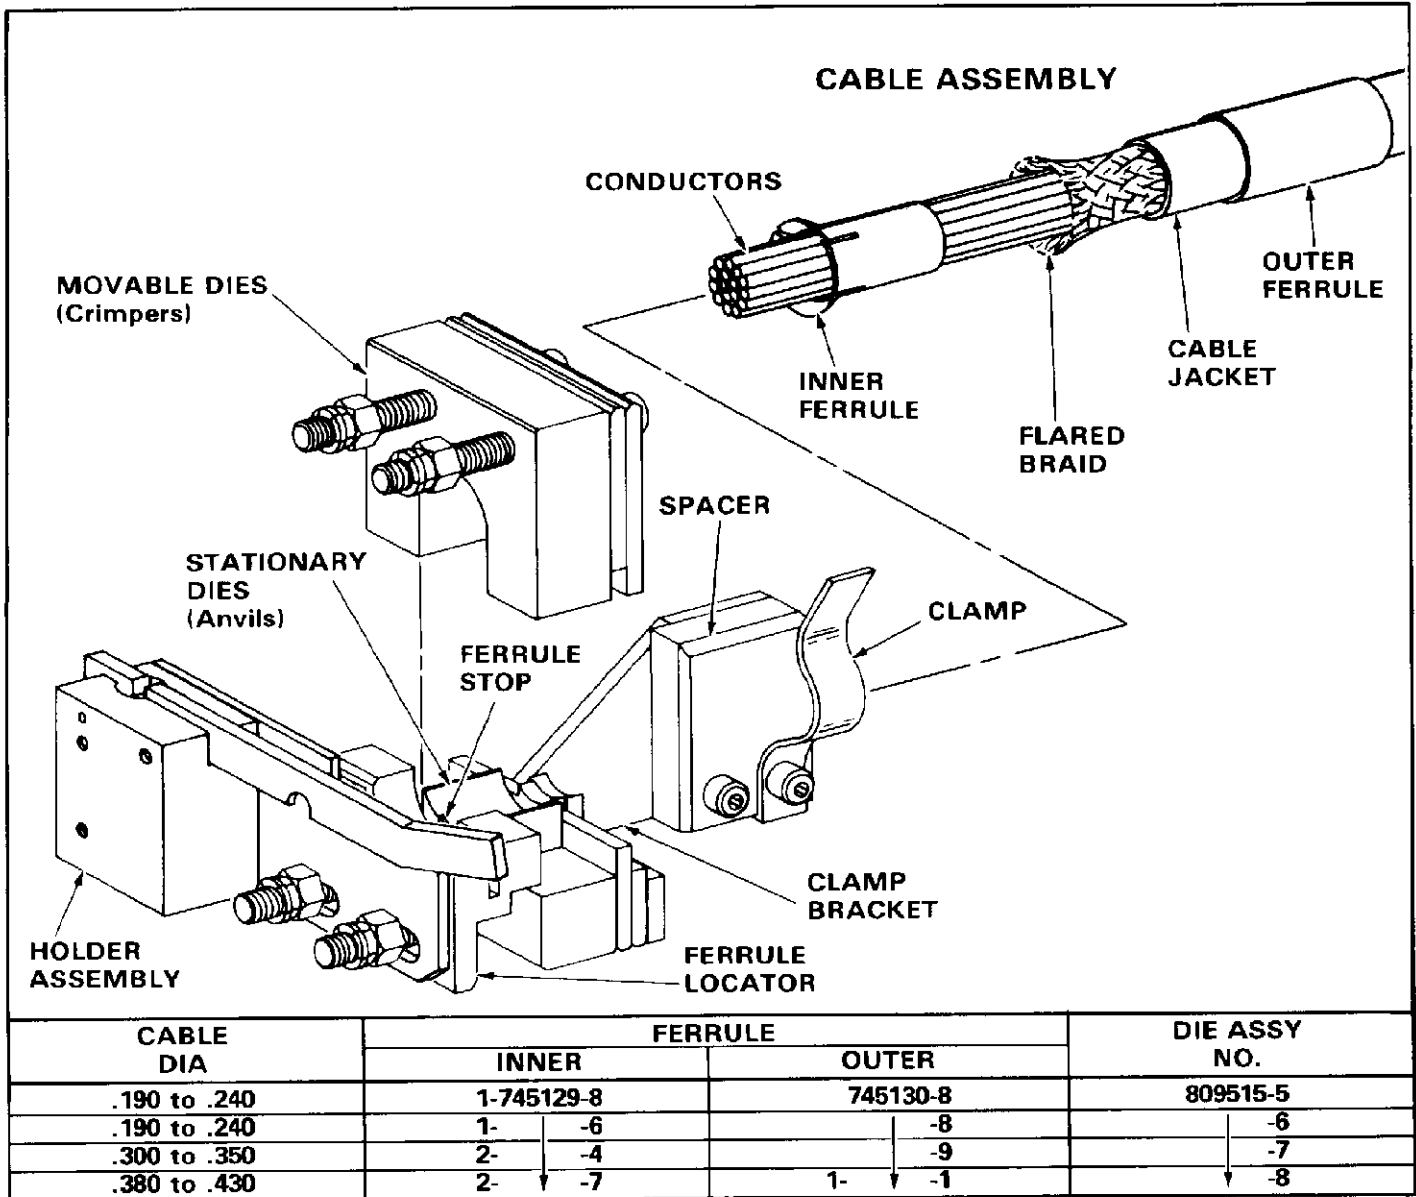

Fig. I-1
This instruction sheet (IS) covers the use of AMP Crimping Die Assemblies 809515-5, -6, -7, and -8 which are designed for use in AMP-O-LECTRIC ★ Machine 220152-1 to crimp the AMPLIMITE Crimp Ferrules listed in Figure I-1 to jacketed cable.
I-2. DESCRIPTION (Figure I-1)
Refer to the chart in Figure I-1 and check the selected
1. Refer to the chart in Figure I-1 and select ferrules and a cable (maximum size) for each crimp section listed in the chart.